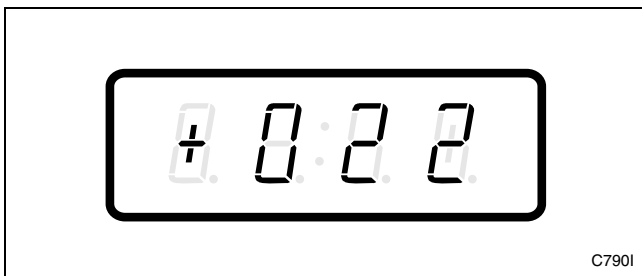

Figure 93
3. Press the DELICATES (+) or the COLD (-) keypad to scroll through the programmable options until “+022” appears in the VFD. Refer to *Figure 93*.